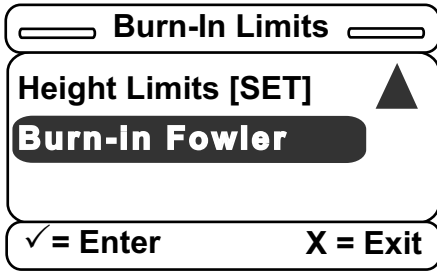

Figure 59 – Burn-In Limits screen
32. After you release the lock button, the **Height Limit Set** message displays and you will return to the Burn-In Limits screen (Figure 59). The height limits are now burned in.